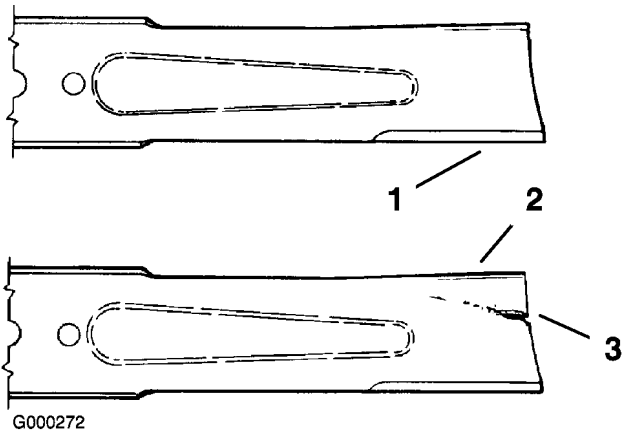

Figure 51
1. Inspect the cutting edges (Figure 51). If the edges are not sharp or have nicks, remove and sharpen the blades. Refer to Sharpening the Blades.
2. Inspect the blades, especially the curved area (Figure 51). If you notice any damage, wear, or a slot forming in this area (item 3 in Figure 51), immediately install a new blade.